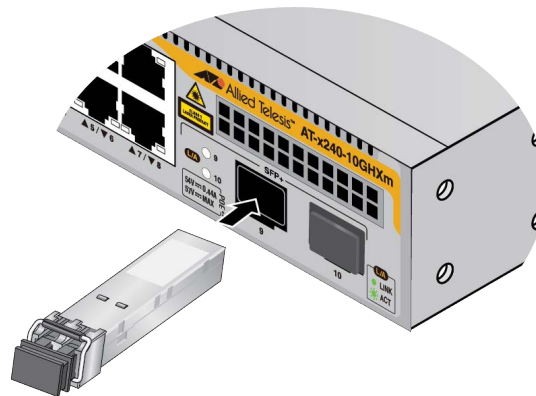

Figure 55. Installing SFP+ Transceivers
4. Slide the transceiver into the port until it clicks into place, as shown in Figure 55.